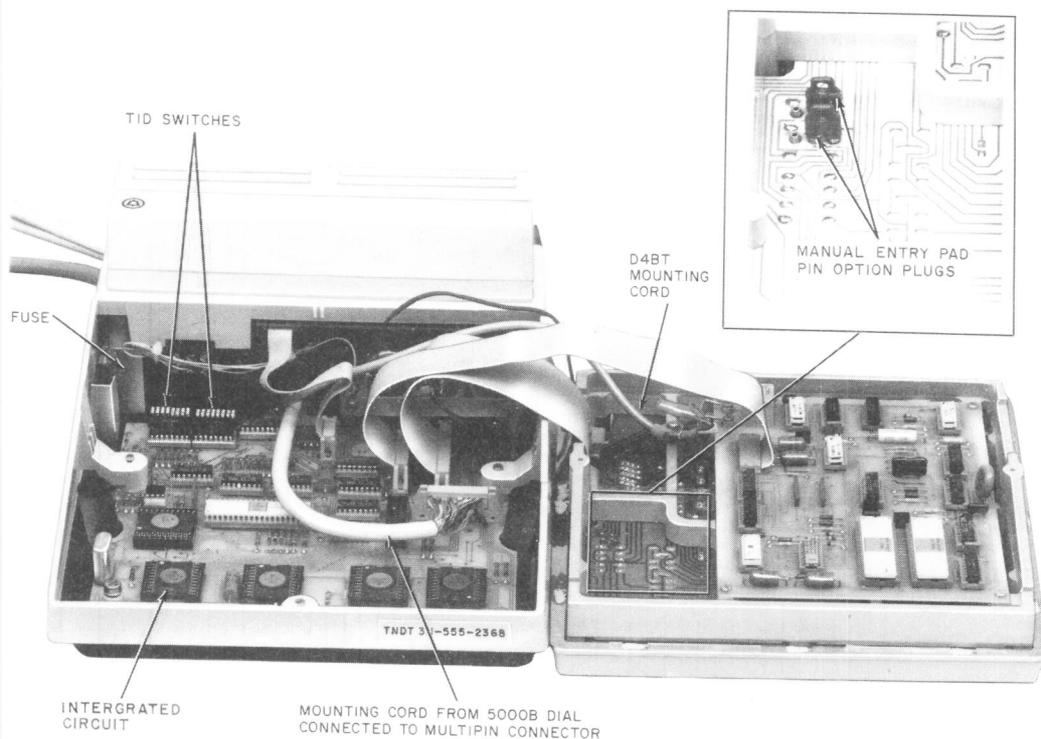

Fig. 3—5000A Transaction III Terminal Set With Upper Housing and Chassis Laid Aside — 5000B, D, or F Dial Connected
- (1) Invert set and loosen the two captive screws holding the upper housing and chassis.
- (2) Lay the upper housing and chassis to the right, as shown by Fig. 3 without disconnecting any cables.
3.04 The Terminal Identification (TID) for the terminal being installed (number is on the service order) should now be set on the terminal identification switches (Fig. 3). The 4 digits of the TID are set by closing the appropriate rocker-switches in each digit group which have values of 1, 2, 4, and 8 counting from left to right. If front side of rocker switch is depressed, the switch will close and the horizontal mark across the bar is not visible. If rear side of rocker switch is depressed, the switch will open and the horizontal mark across the bar is visible. Only closed switches produce a 1, 2, 4, or 8 (counting left to right) or a combination thereof. See Fig. 4 for example of switches coded for TID No. 5874.
3.05 To provide this manual entry pad PIN option, move the two option plugs shown in Fig. 3 to the two left pin positions.
- (1) Verify that manual entry pad PIN option plugs are in the right pin positions as shown by the insert of Fig. 3.
- (2) Hold the lower housing up on its side and feed the mounting cord of the 5000B, D, or
(3) Plug multipin connector of dial mounting cord into receptacle on main printed wiring board (PWB) Fig. 3. (Cord should extend toward the front of the set when connector is correctly oriented.)
(4) If a 5000F dial is being used, the A52D7PC intergrated circuit provided with the D-180822 Kit of Parts must be installed in place of the A52D7PB circuit on the main printed wiring board, (Fig. 3). Carefully pry up the edge of the existing intergrated circuit package and lift it out. When properly oriented the new circuit package may be plugged in.